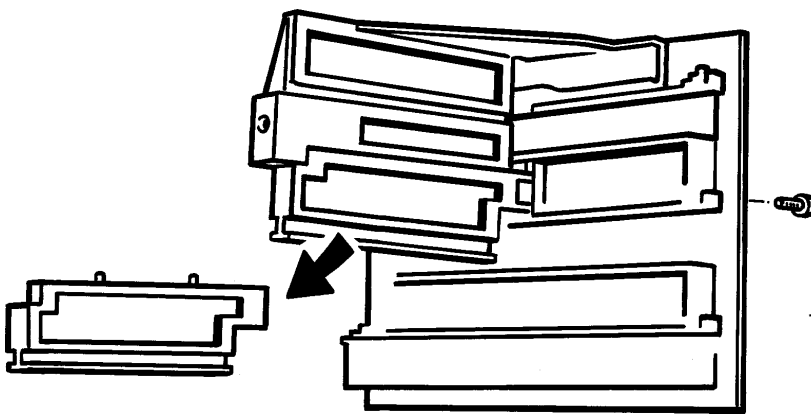

Figure 9 Removal of the circuit board guide extension
22. Undo the securing screw at the rear of the recorder and remove the circuit board guide extension as shown in figure 9. Continue at step 25.